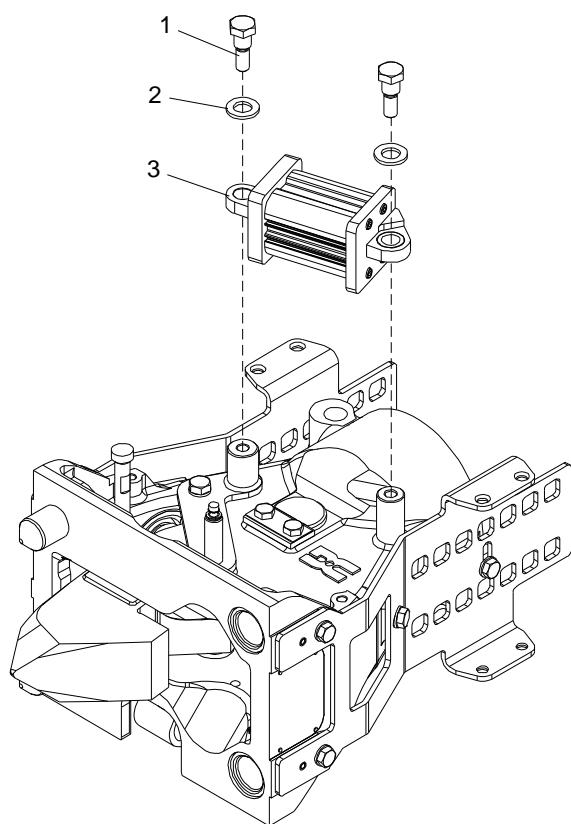

Figure 7-4: Replacement of Uncoupling Cylinder
2. Disconnect the pneumatic connection from the uncoupling cylinder (3). See Figure 7-4.
3. Remove the two bolts (1) and washers (2) and the uncoupling cylinder (3).
2. Position the uncoupling cylinder (3) on the coupler head. Secure with two bolts (1) and washers (2). See Figure 7-4.
3. Connect the pneumatic connection to the uncoupling cylinder (3).